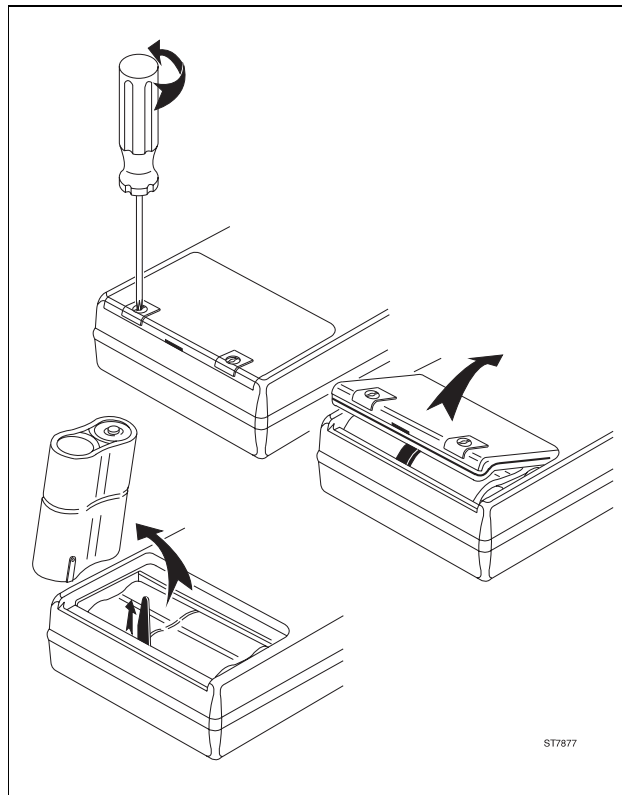

Figure 8-1. Battery Replacement
6. Install a new NiCad battery pack (PM9086) or new alkaline (C Cell) batteries (type KR27/50 or R14) as shown in Figure 8.1.
Ensure that the NiCad battery pack charging contact is aligned in the battery compartment as shown in Figure 8.1. Use only the PM9086 NiCad battery pack.